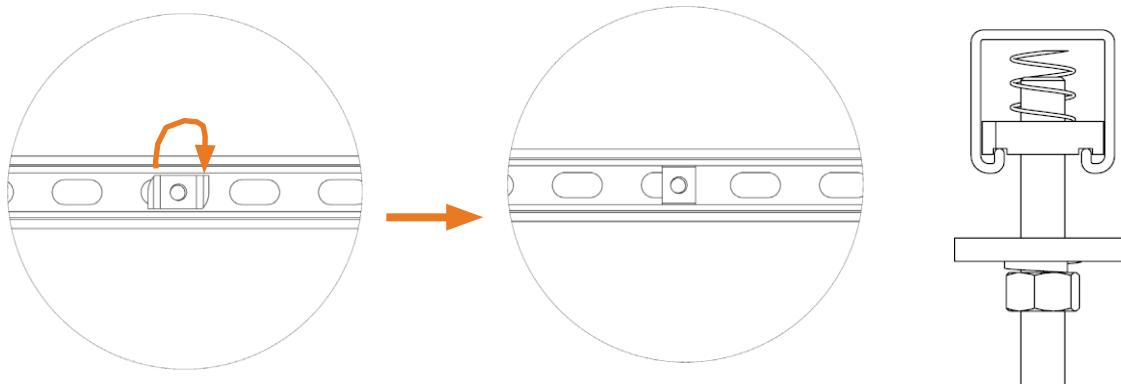

Figure 284: Strut Channel Nut Seated Properly in the Slotted Strut Channel
- Make sure the strut channel nut is seated properly in the 1 5/8" slotted (1/2") strut channel (Figure 284).